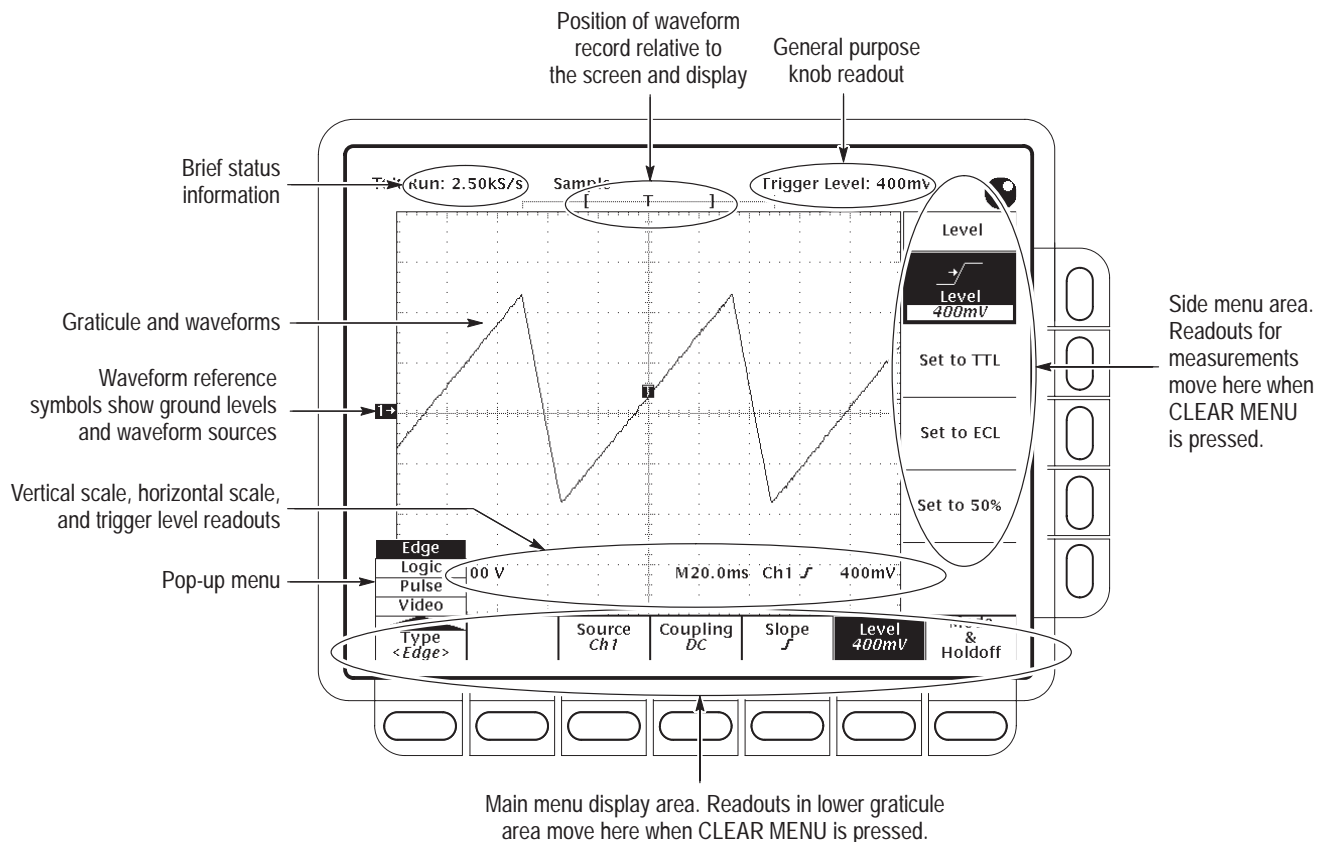

Figure 4–1: Map of display functions
- Refer to Figure 4–1: “Main menu” refers to the menu that labels the seven menu buttons under the display; “side menu” refers to the menu that labels the five buttons to the right of the display. “Pop-up menu” refers to a menu that pops up when a main-menu button is pressed.